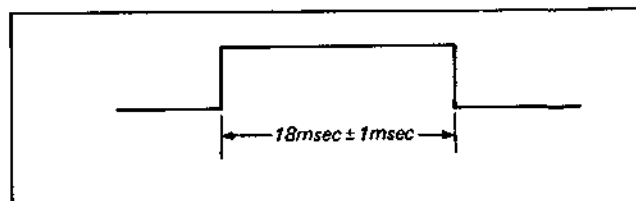

Fig. 4-3-11. Frame-by-frame speed adjustment
- (1) Set up the FRAME-by-FRAME mode. (Keep pressing the FRAME button.)
- (2) Connect the oscilloscope to the emitter of Q6.
- (3) Adjust RV6 for a pulse width of $18\text{ msec} \pm 1\text{ msec}$. (See Fig. 4-3-11.)